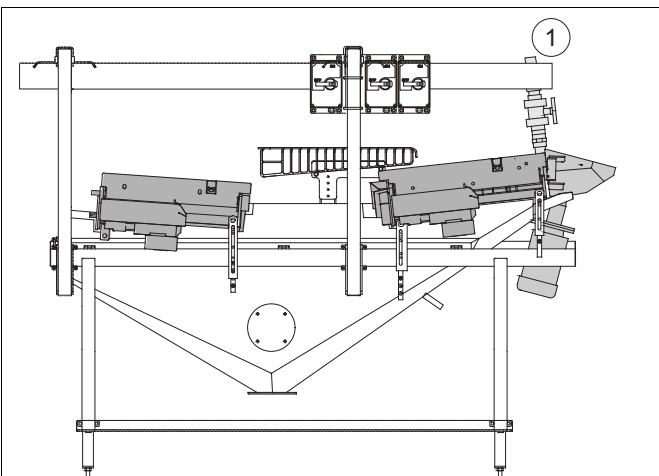

fig. 12 Connect the vacuum
- Connect point **1** to the vacuum system. For connection and consumption details consult the "Technical Data". See fig. 12.